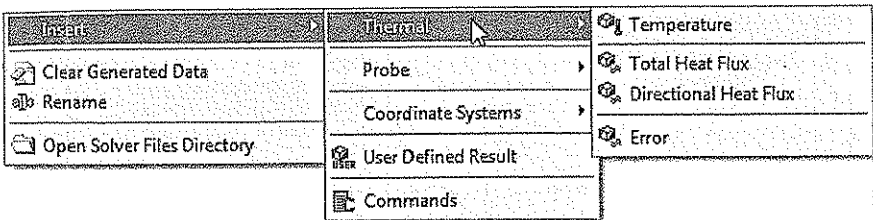

Figure 11-61 The shortcut menu displayed by right-clicking on the **Solution** node
- 1. Right-click on the **Solution** node in the Tree Outline and then choose **Insert > Thermal > Temperature** from the shortcut menu displayed, refer to Figure 11-61; **Temperature** with a yellow thunderbolt symbol is added under the **Solution** node in the Tree Outline. Also, the **Details of “Temperature”** window is displayed.